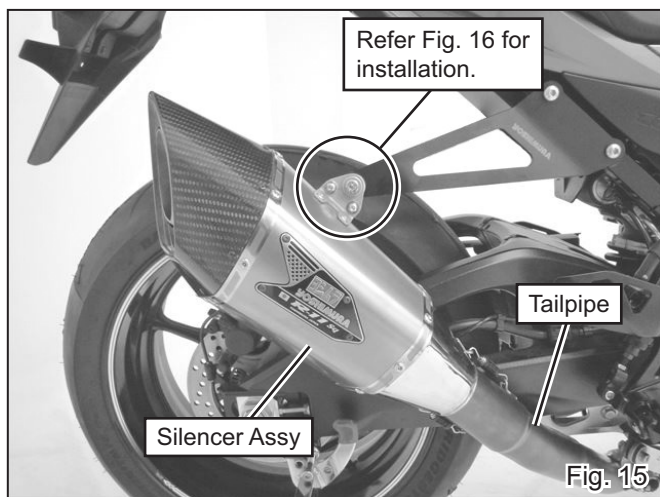

Fig. 15
- 14) Install Silencer Assy into Tailpipe, and mount Silencer Bracket #2 on Silencer Bracket #1 with Cap Bolt M8x30, Washer M8x20, 2 of Washer M8x26 and Flange Nut M8 (See Fig. 15 & 16). Tighten bolt by hand only at this stage.